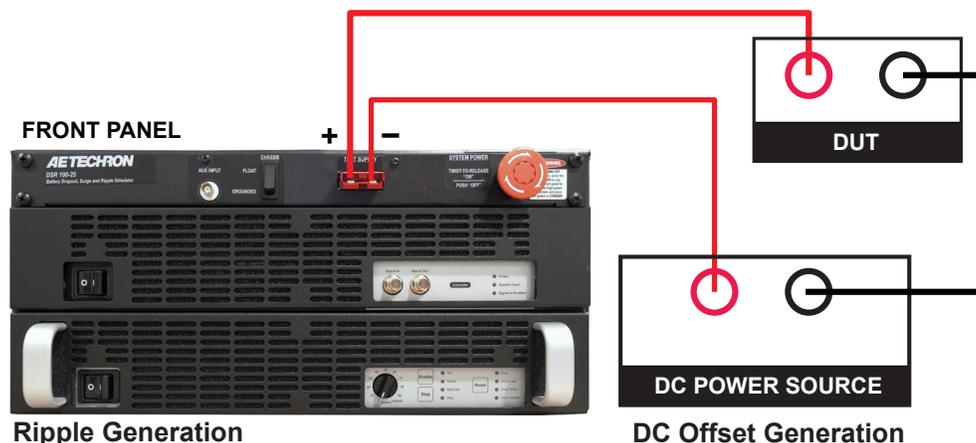

Figure 4.1 – Connections for Testing to ISO 16750-2 Section 4.8.
2. **Connect the Outputs:** Using the supplied mating output connectors and wiring appropriate for your application, connect from the DSR 100-25's front-panel positive and negative test supply connectors to the DC supply source and the device under test as shown in **Figure 4.1**.